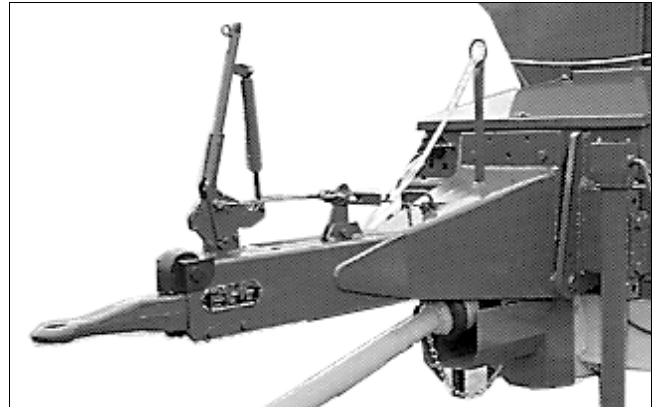

Fig. 7
- a draw bar (Fig. 7) with overrunning brake and automatic recoil device,